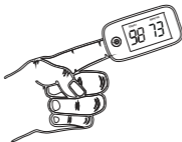

Figure 4: Finger Placement Diagram
- A. The user should fully insert the finger into the probe (Figure 4).